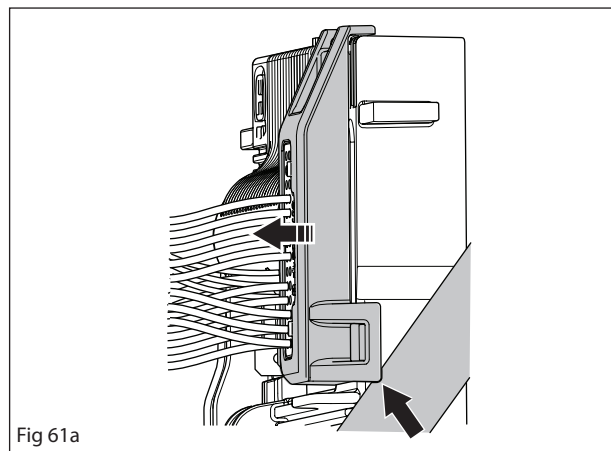

Fig 61a
- Use a flat sharp tool to carefully snap off the bracket holder. See figure 61a.